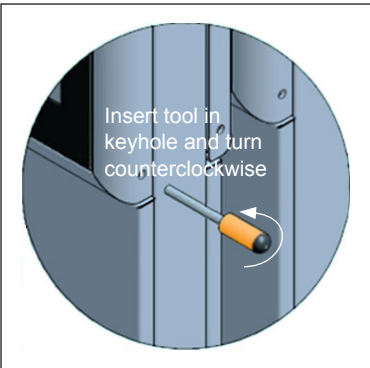
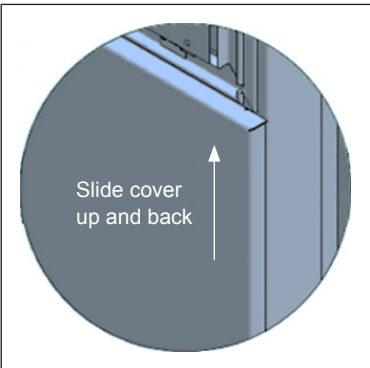

Figure 7: Opening Door
Figure 8: Removing Shrouding
- 5. Attach the display section to the crane/lift. Use the special 5.5mm tool to open the front glass door and to remove the bottom base shrouding. Refer to Figure 7 and Figure 8. Unbolt the four bolts securing the display section to the frame base.